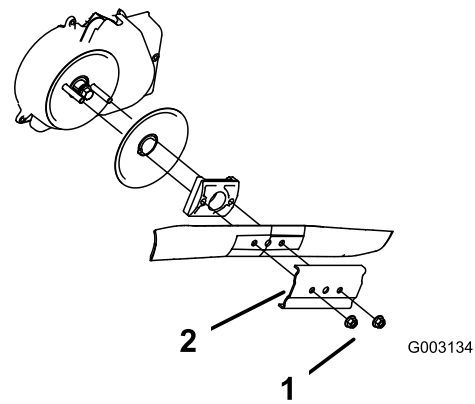

Figure 30
- 3. Remove the 2 blade nuts and the stiffener (Figure 30).
- 4. Remove the blade (Figure 30).
- 5. Install the new blade (Figure 30).